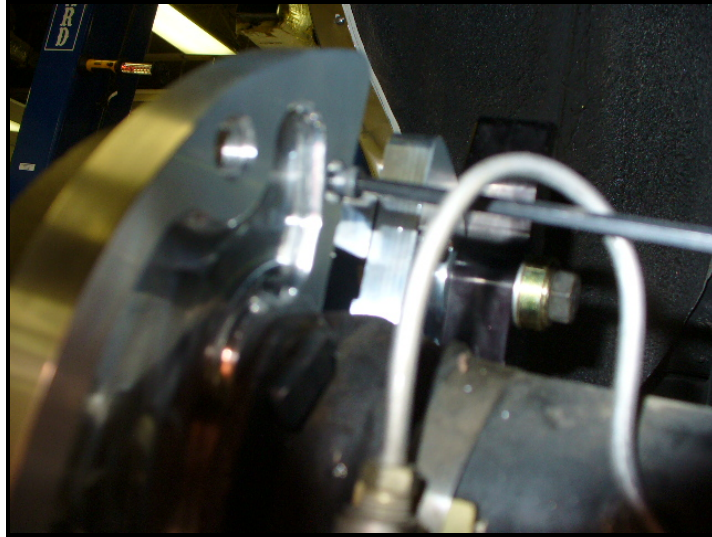

Figure 4: Insert allen bolts into retainer bracket
- Secure the park brake shoe with the provided allen screws. Torque each bolt to 10-12 ft-lbs. This procedure is similar for all SS4, Pro+, and Ext+ Systems. Figure 4 shows the installation.